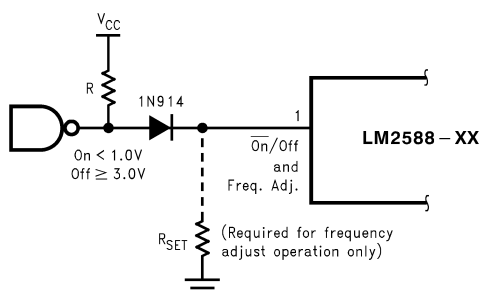

Figure 20. Shutdown Operation
- (1) All room temperature limits are 100% production tested, and all limits at temperature extremes are specified via correlation using standard Statistical Quality Control (SQC) methods.
- (2) To measure this parameter, the feedback voltage is set to a high value, depending on the output version of the device, to force the error amplifier output low and the switch off.
- (3) To measure this parameter, the feedback voltage is set to a low value, depending on the output version of the device, to force the error amplifier output high and the switch on.
- (4) To measure the worst-case error amplifier output current, the LM2588 is tested with the feedback voltage set to its low value (specified in Note 3 under the Electrical Characteristics: All Output Voltage Versions ⁽¹⁾ table) and at its high value (specified in Note 2 under the Electrical Characteristics: All Output Voltage Versions ⁽¹⁾ table).
- (5) When testing the minimum value, do not sink current from this pin—isolate it with a diode. If current is drawn from this pin, the frequency adjust circuit will begin operation (see Figure 20).
A feature of the LM2588 is its ability to be shut down using the \overline{ON}/OFF pin (pin 1). This feature conserves input power by turning off the device when it is not in use. For proper operation, an isolation diode is required (as shown in Figure 20).
The device will shut down when 3 V or greater is applied on the \overline{ON}/OFF pin, sourcing current into pin 1. In shut down mode, the device draws typically 56 μ A of supply current (16 μ A to V_{IN} and 40 μ A to the \overline{ON}/OFF pin). To turn the device back on, leave pin 1 floating, using an (isolation) diode, as shown in Figure 20 (for normal operation, do not source or sink current to or from this pin—see the next section).
The switching frequency of the LM2588 can be adjusted with the use of an external resistor. This feature allows the user to optimize the size of the magnetics and the output capacitor(s) by tailoring the operating frequency. A resistor connected from pin 1 (the Freq. Adj. pin) to ground will set the switching frequency from 100 kHz to 200 kHz (maximum). As shown in Figure 20, the pin can be used to adjust the frequency while still providing the shut down function. A curve in the Performance Characteristics Section graphs the resistor value to the corresponding switching frequency. The table in Table 1 shows resistor values corresponding to commonly used frequencies.